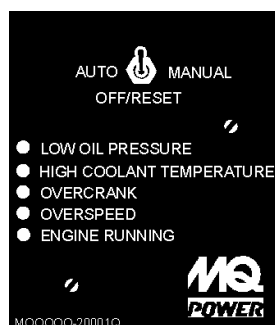

Figure 9. MPEC Module
11. **MPEC – Microprocessor Engine Control Module** – (MPEC) has a vertical row of status LED's (Figure 9), that when lit, indicate that an engine malfunction (fault), has been detected. When a fault has been detected the MPEC will evaluate the fault and if the fault is major will shutdown the generator.